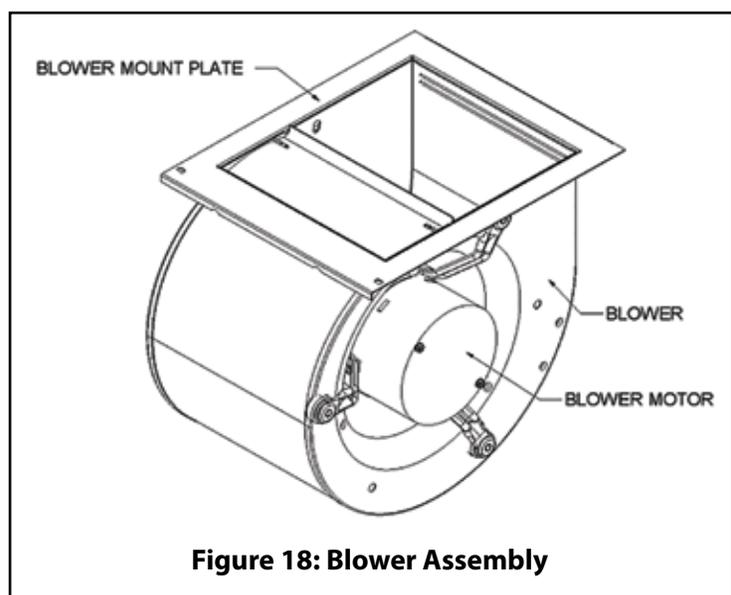

Figure 18: Blower Assembly
- Slide the blower mount plate (See Figure 18) into the track under the blower deck until it stops and install the 2 screws that attach the blower assembly to the blower deck.